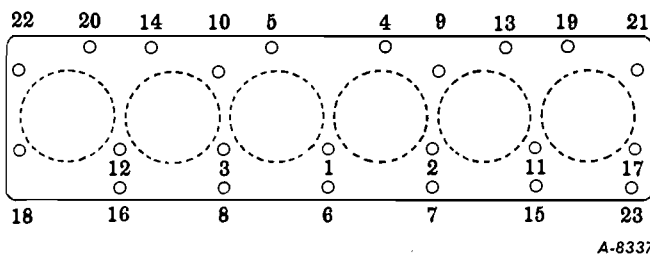

Fig. 40
2. **INSTALL VALVE ROCKER ARM ASSEMBLY.** Insert twelve valve lifter rods in cylinder head, make sure they enter the valve tappet. Lift the valve rocker-arm assembly into position on cylinder head with the drilled oil bracket on the front end. Install the remainder of cylinder-head bolts and tighten alternately and evenly in sequence to 80 foot-pounds (Fig. 40). Be sure to place stud with oil hole in the left front cylinder-head bolt hole. Retighten cylinder head after engine has been operated for a short period.